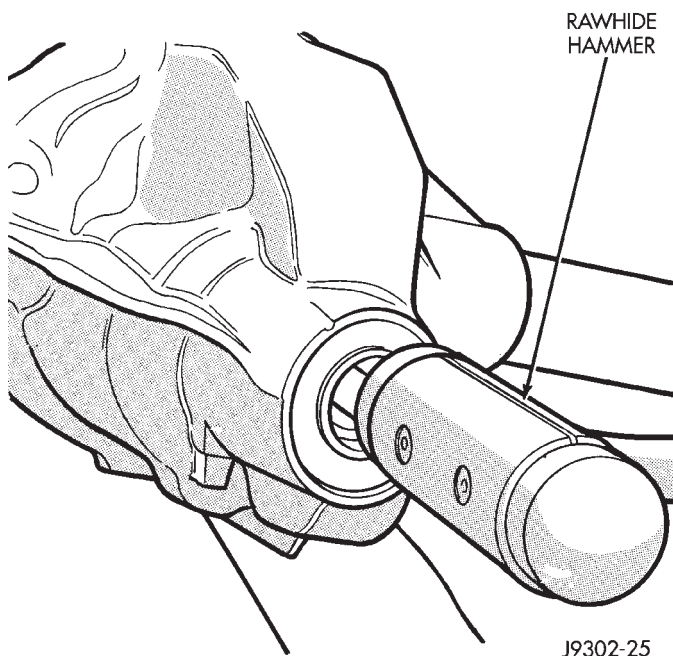

Fig. 21 Remove Pinion Gear
(2) Remove the pinion gear seal with a slide hammer or pry out with bar.
(3) Drive out pinion gear from housing with rawhide or plastic hammer (Fig. 21). Catch the pinion with your hand to prevent it from falling and being damaged. **This will damage the front bearing rollers and bearing cup. The front bearing and cup must be replaced.** Remove preload shims and record the thickness.